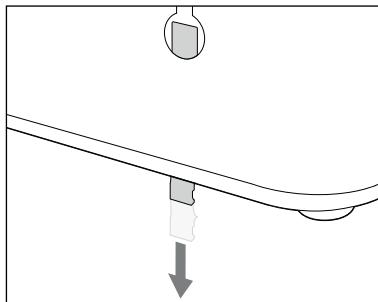

Fig. 1
2. Push the two supplied wall plugs ⑩ into the drilled holes and screw the two supplied screws ⑨ into the wall plugs ⑩. Take care that the screws ⑨ still protrude about 3 mm out of the holes.
3. On the back side of the appliance, the right hanger **7** has a locking pin **8** to prevent the appliance from coming free of the screws **9**. Pull the locking pin **8** down slightly out of the hanger **7** (see Fig. 1).